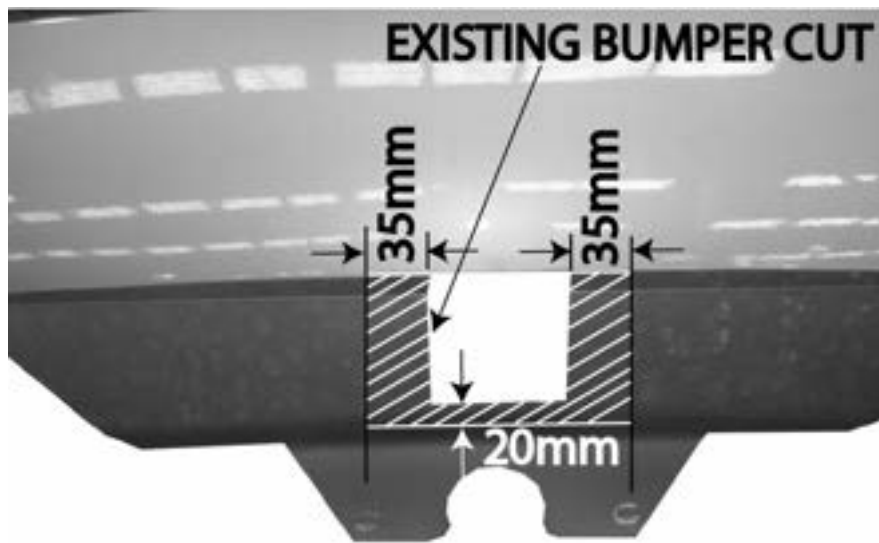

Figure 2 – Bumper Cut out Diagram.
6. Cut the bumper as illustrated in Figure 2.